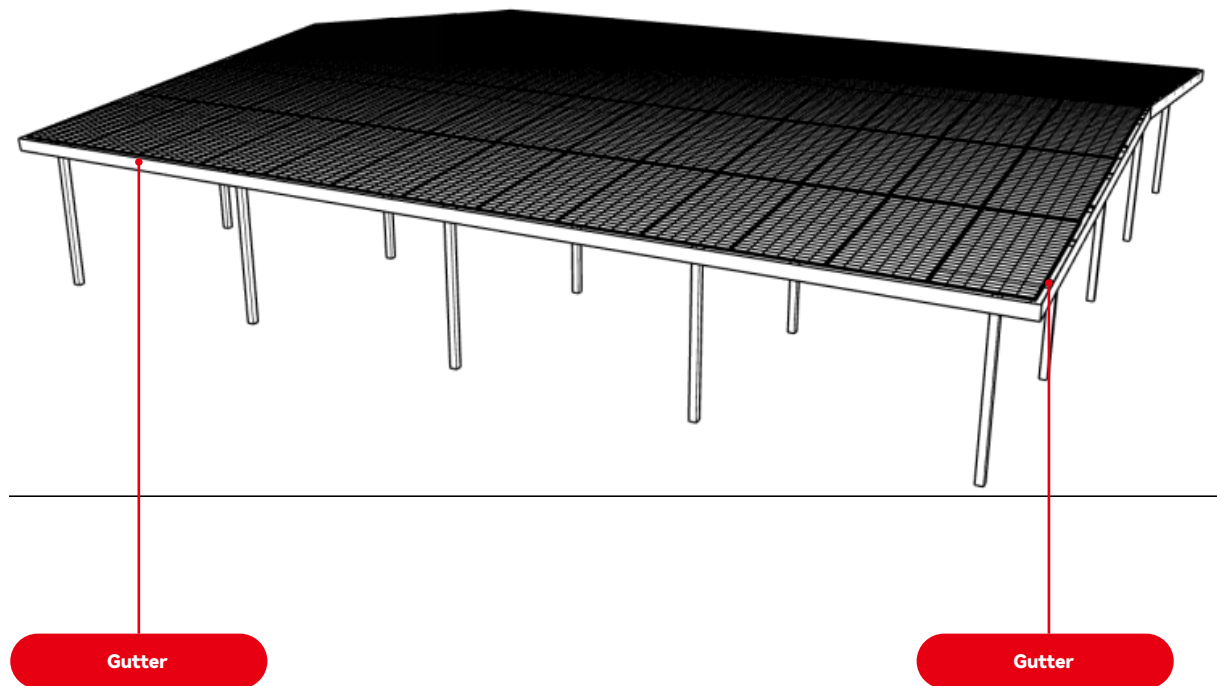

FIGURE 29
- Install the finished gutter around the perimeter( Figure 29) to complete the installation.